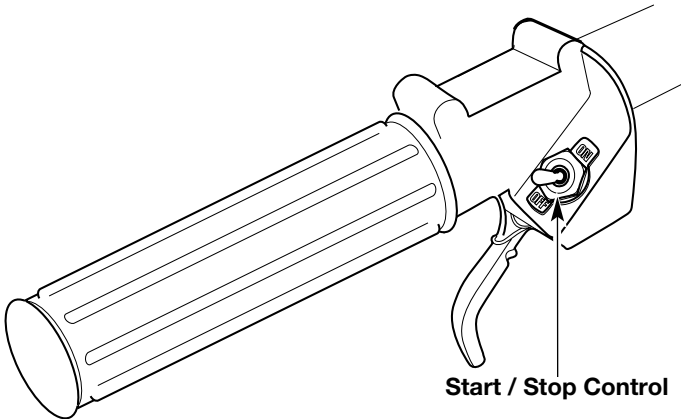
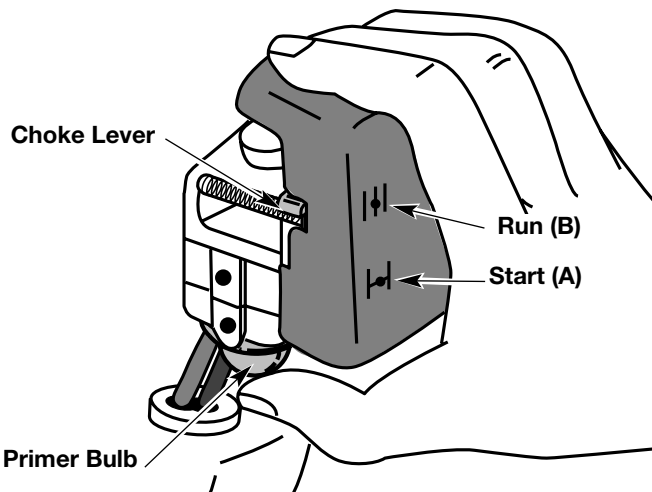

Fig. 1
Fig. 2
2. Put the Start / Stop Engine Control in the **STOP** position (Fig. 1).
2. Put the Start / Stop Engine Control in the **START** position (Fig. 1).
3. Fully press and release primer bulb slowly 5 to 7 times. Fuel should be felt and visible in the bulb (Fig. 2). If fuel hasn't entered the bulb, press three more times, or until it does.
4. Place the choke lever in the **START** position (A) (Fig. 2).
6. Place the choke lever in the **RUN** position (B) (Fig. 2).
9. Squeeze the throttle control to warm up engine for 5 to 10 seconds. Place the choke lever in the **RUN** position (B) (Fig. 2).
NOTE: Choking is unnecessary when starting a warm engine. Put the Start / Stop Engine Control in the **START** position (Fig. 1), and start in **RUN** (B) (Fig. 2).